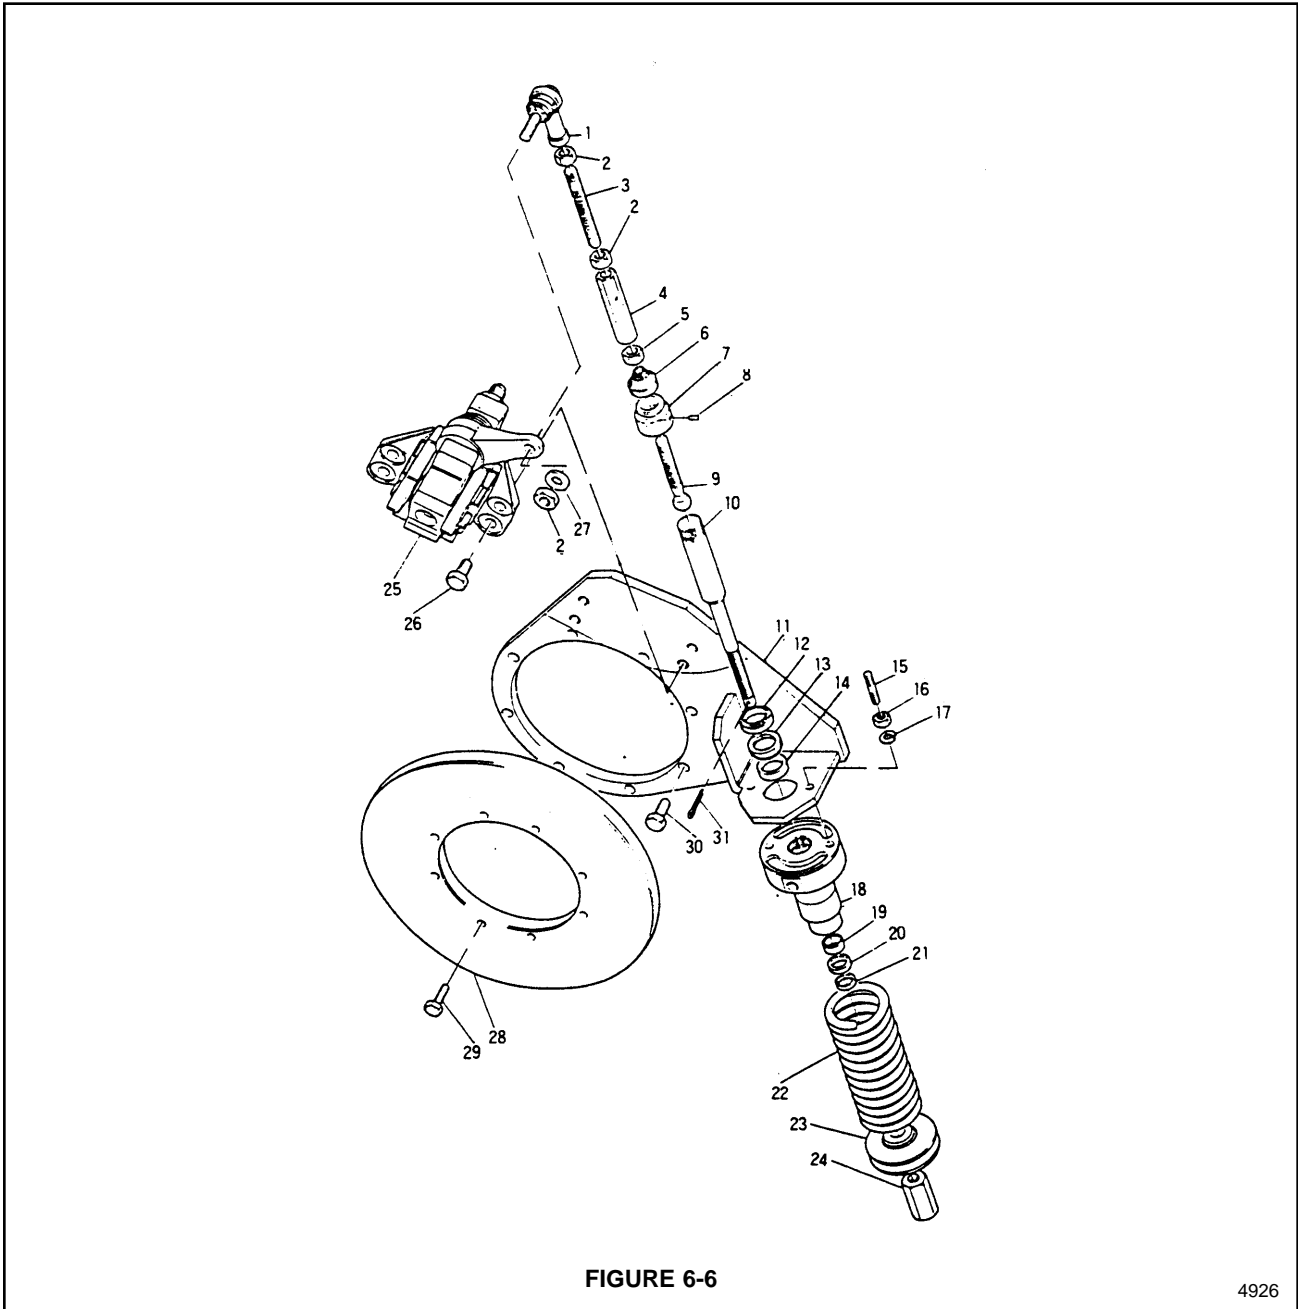

FIGURE 6-6
A disc type parking brake is attached to the input shaft on the front axle. See Figure 6-6. This brake is spring applied and hydraulically released. When the parking brake switch in the operator's cab is moved to the brake release position, the parking brake solenoid valve opens and directs fluid from the brake pump to the brake cylinder (18). Maximum parking brake hydraulic pressure is 100 bar. The brake cylinder retracts the brake set spring (22), and releases the brake.